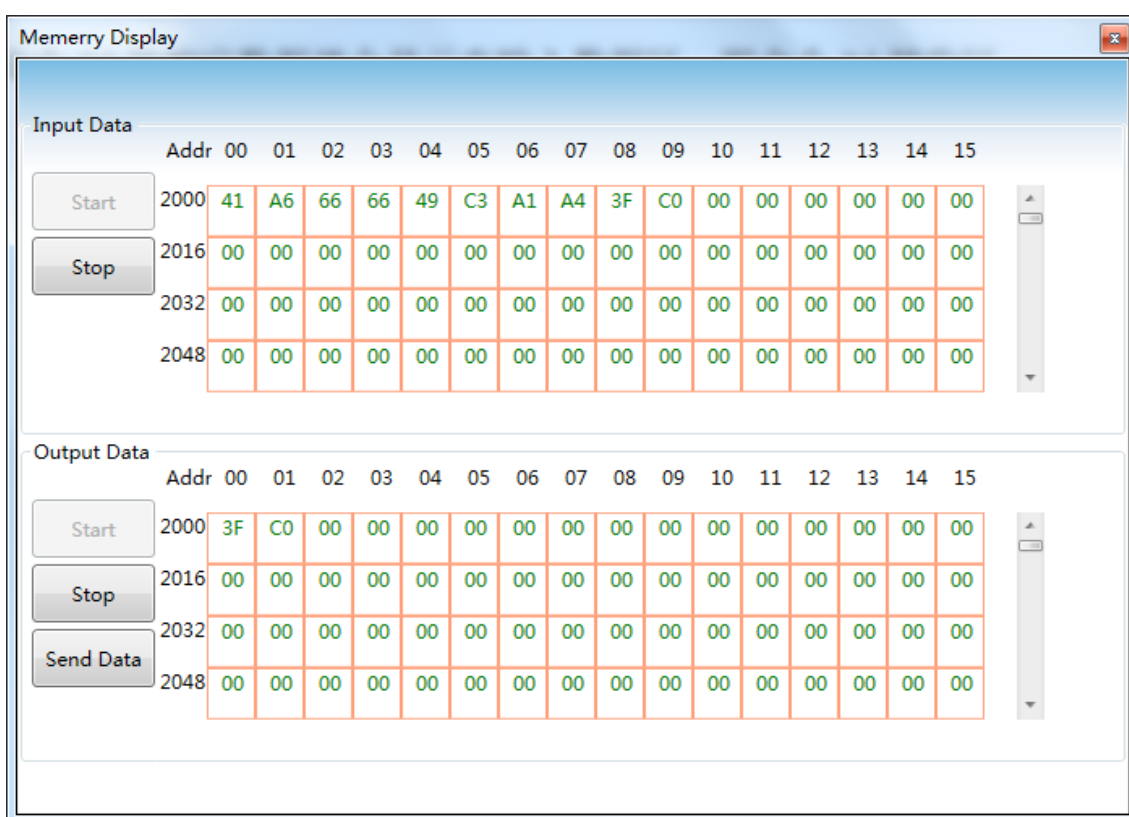

Figure 4.10 Memory display interface
(2) Connect the RS232 (or RS485/RS422) interface of the gateway and the serial port of the computer with a serial cable (or 485/422 to serial cable), and finally power on the gateway, and the gateway is running in debug mode.
(3) Start the configuration software. After G1003 is online, click the memory display icon  on the toolbar to open the memory display interface, as shown in Figure 4.10:
As shown in Figure 4.10, the input and output data shows the current value of each memory cell in the form of a table. When you want to modify the output data, first click the button "stop", then modify the corresponding data, and finally click the button "send data".